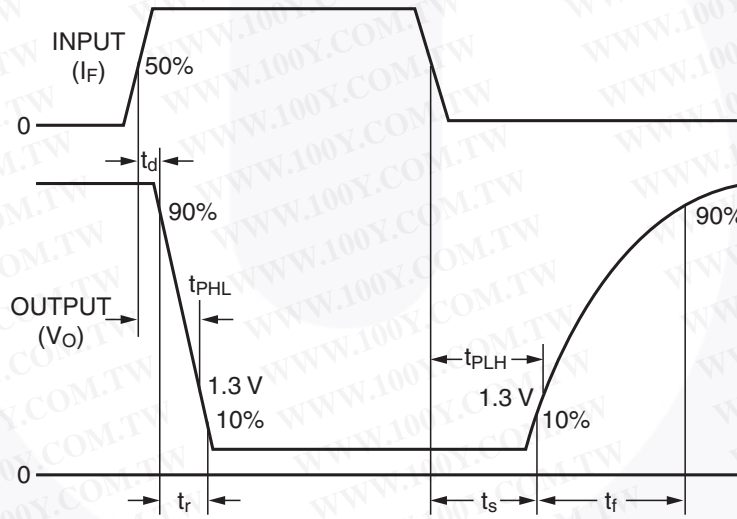

Figure 16. Switching Time Waveforms
- Referring to Figure 16 the  $T_{PHL}$  propagation delay is measured from the 50% point of the rising edge of the data input pulse to the 1.3 V point on the falling edge of the output pulse.
- Referring to Figure 16 the  $T_{PLH}$  propagation delay is measured from the 50% point of the falling edge of data input pulse to the 1.3 V point on the rising edge of the output pulse.